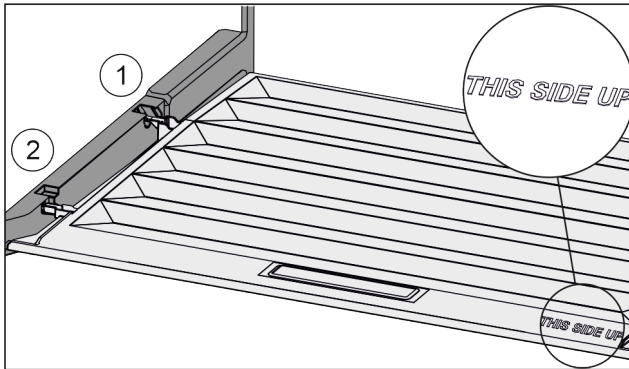

Fig. 40
- ▶ Insert the lip of the cover over the opening of the rear bracket Fig. 40 (1) and click into place Fig. 40 (2).